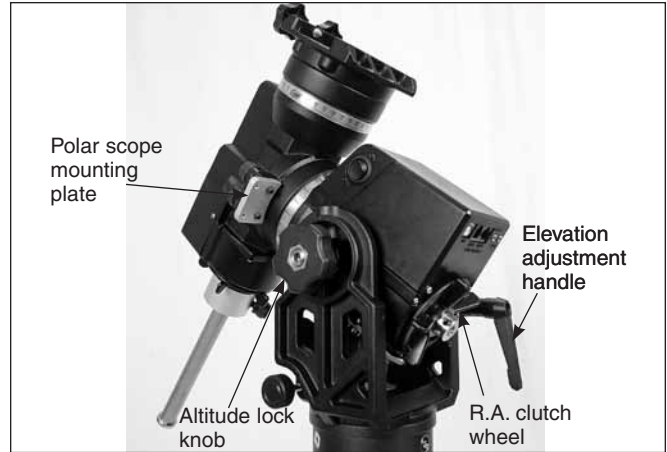

Figure 14. Loosen the altitude lock knob before adjusting the mount's elevation angle.
1. Loosen the altitude lock knob located on the left side of the mount (**Figure 14**) about a quarter turn.